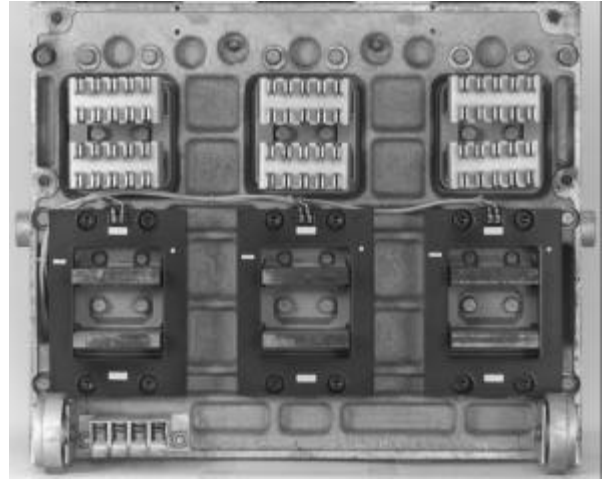

Figure 10. Wiring harness installation on the CTs.
2. Bring the CT leads of the wiring harness around to the back and bottom of the breaker, as shown in Figure 10. Connect the harness leads to the screw terminals on each CT. The black wire (tap) connects to the "B" terminal and the white wire (common) to the "W" terminal.